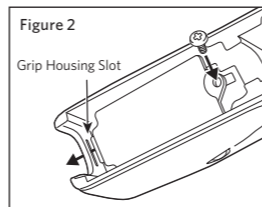

Figure 2
3. Insert one (1) CR2 Lithium battery in the direction indicated inside compartment.
4. Insert battery cover ensuring cover tab seats into grip housing slot. Reinstall screw (Figure 2).